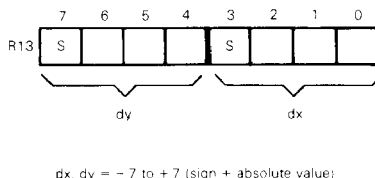

FIGURE 2.3. - SHORT DIMENSION REGISTER R13
3. Any drawing command may be parametered to use short incremental dimensions, DXY in register R13 instead of the standard DXd, DYd in the "R16, R17" register pair. (See figure 2.3).